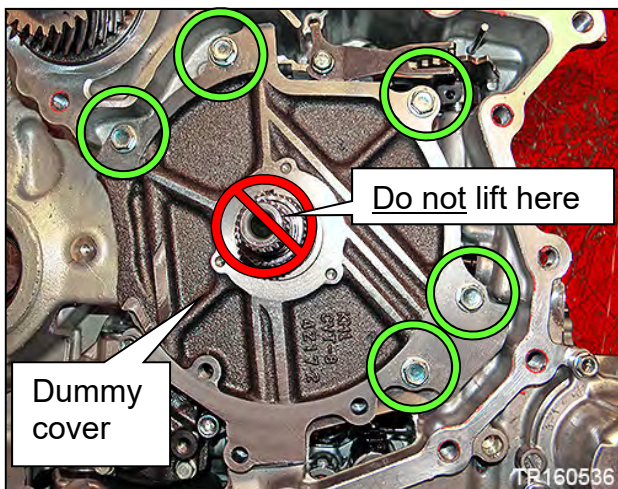

Figure 48
29. Remove the five (5) dummy cover bolts, and then remove the dummy cover. See Figure 48.
- Lift the dummy cover from sides **ONLY**. Do **NOT** lift from the input shaft (Figure 48). This can lift the clutch pack out.